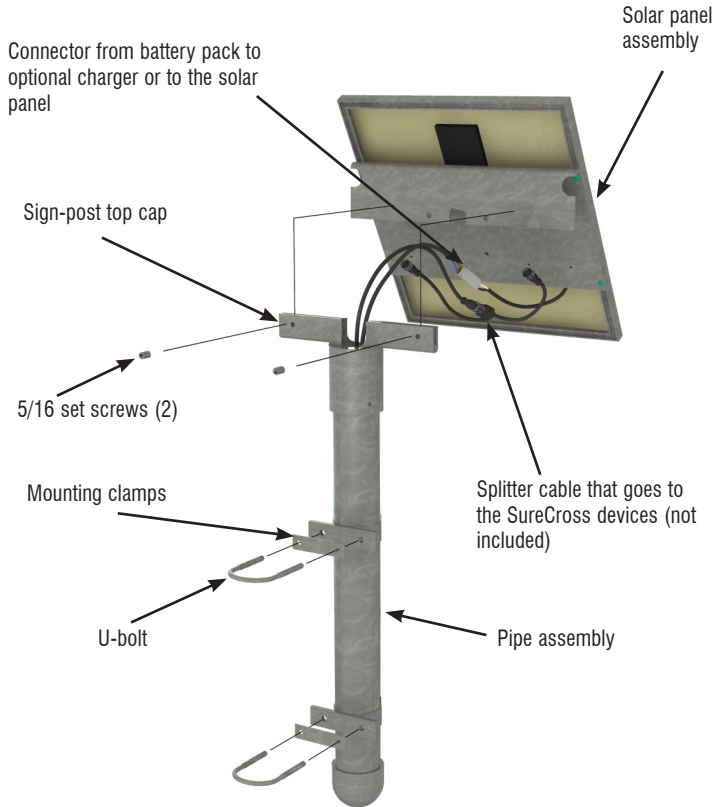

Figure 3 - Exploded view of the Solar Supply.
1. Connect the two-piece mounting clamps together around the pipe as shown in figure 3. Use the supplied u-bolts to lock the clamps to the pipe, positioning the clamps about 10 inches apart.